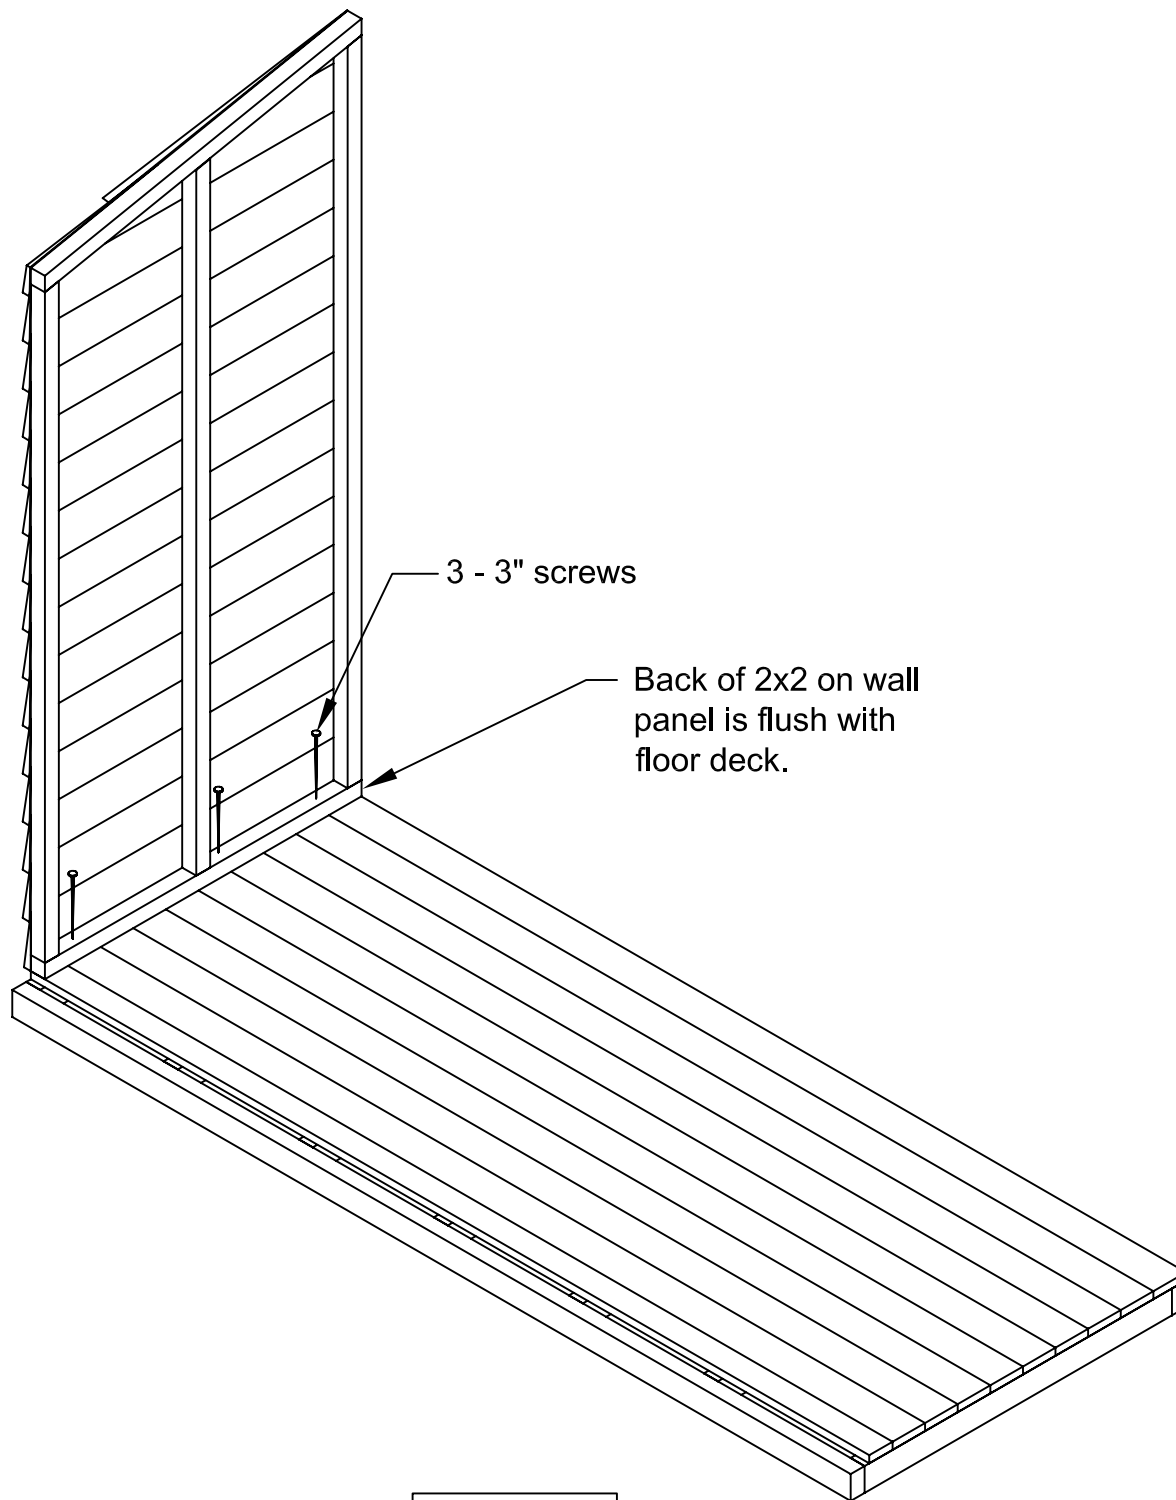

FIGURE S2
- Take the left sidewall panel and position it on the floor so that the bottom 2x2 wall plate is flush with the outside and rear of the decking edges. As indicated in "Figure S2". Secure to the floor with 3 - 3" screws